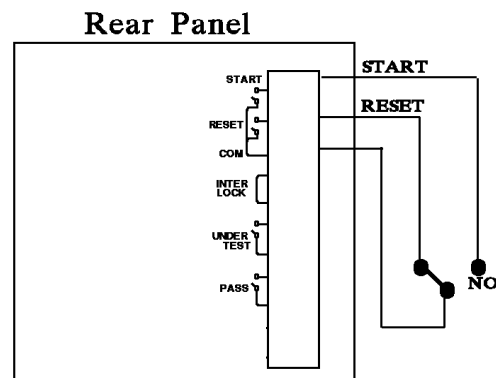

Figure 4-2
2. As *Figure 4-2*, the main unit is under STOP status. NC point is connecting to STOP and NO point connecting to START.